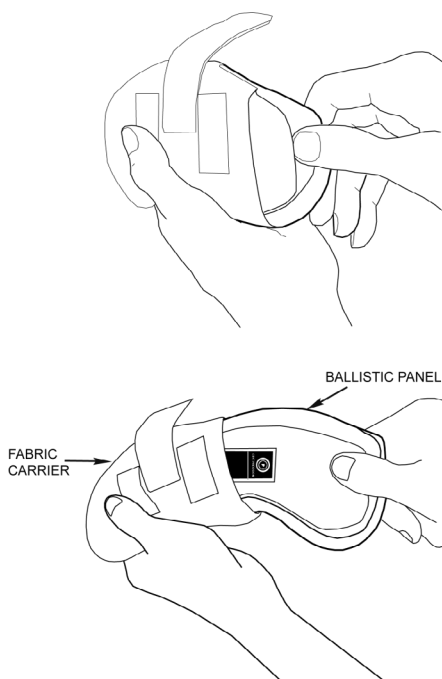

Figure 1. Removing Ballistic Panel from Fabric Carrier.
- a. Remove soft ballistic panel from outer fabric carrier through opening in carrier as shown in Figure 1.